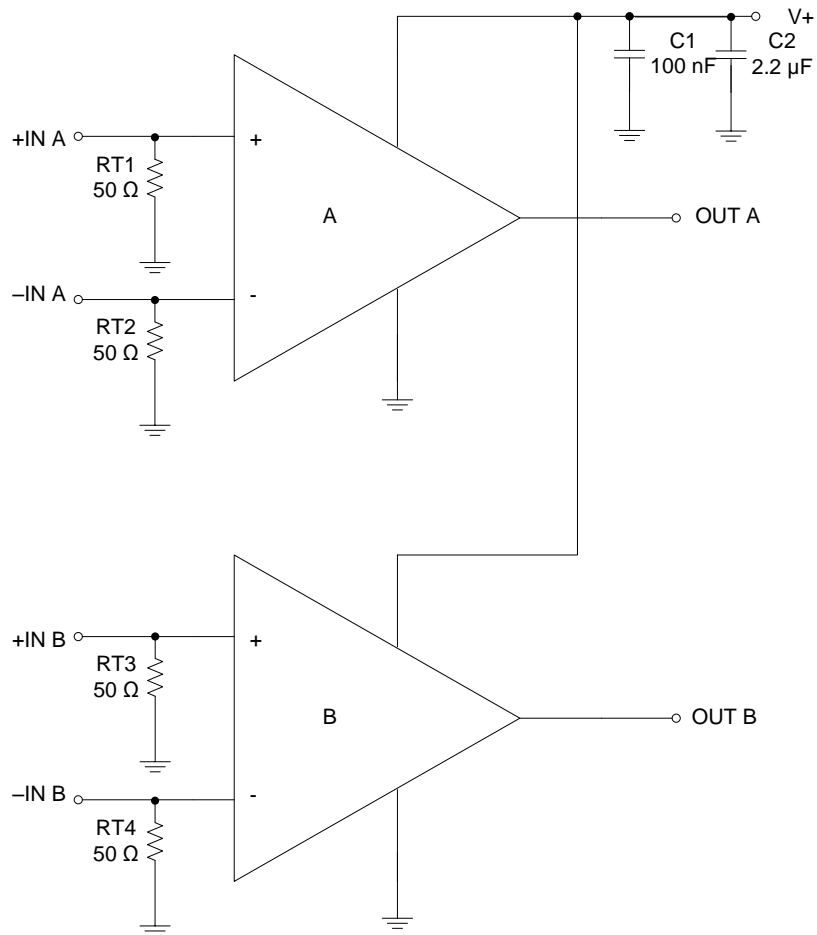

Figure 22. Schematic for Figure 21
- Figure 21 shows an evaluation layout for the TLV3502-Q1 SOT23-8 package. The device is shown with SMA connectors bringing signals on and off the board. RT1, RT2, RT3 and RT4 are termination resistors for + IN A, + IN B, -IN A, and -IN B respectively. C1 and C2 are power-supply bypass capacitors. Place the 0.1- $\mu\text{F}$  capacitor closest to the comparator. The ground plane is not shown, but the pads that the resistors and capacitors connect to are shown. Figure 22 shows a schematic of this circuit.